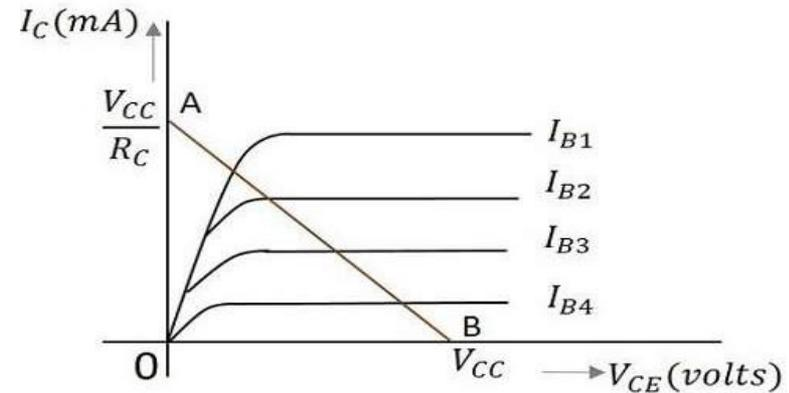

Fig.18: CE O/P characteristics with DC load line
- The fig.18 shows the DC load line.